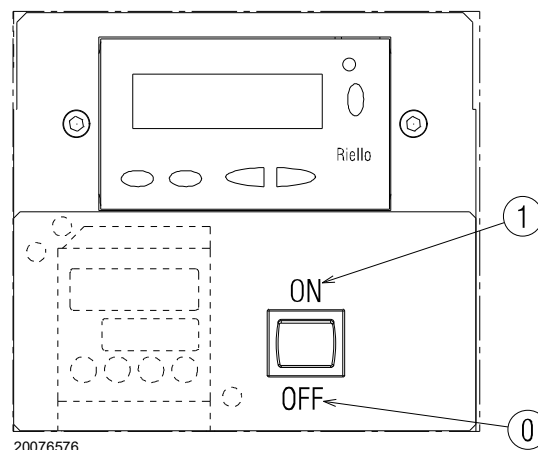

Fig. 29
Close the thermostats/pressure switches and set the switch of Fig. 29 to “1/ON”.
- put the switch of Fig. 29 to “0/OFF” and wait until the flame control carries out the switching off phase;
The burner is in the heat request waiting mode, or the selector “0-1” (Fig. 29 on page 31) is at “0”.